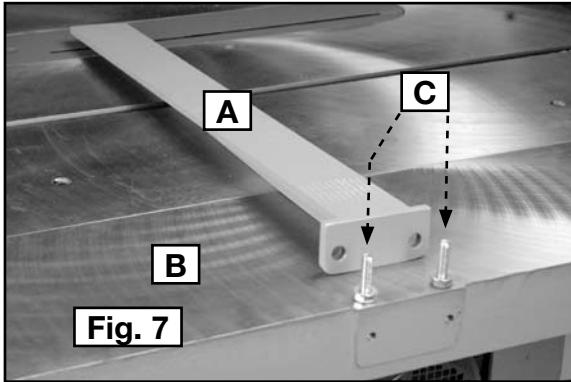

Fig. 7
Attach the rip fence support bracket (A) Fig. 7 to the saw (B) with two M8 x 35mm hex-head bolts (C) Fig. 7.